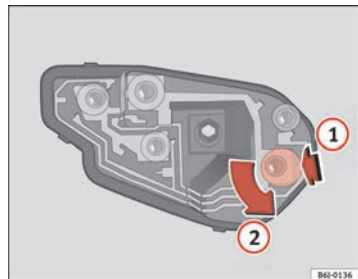

Fig. 146 Changing bulbs on rear lights
- Once the bulb holder has been removed, press downwards in the direction of the arrow (1) and at the same time, turn in the direction of the arrow (2) ⇒ fig. 146. ■